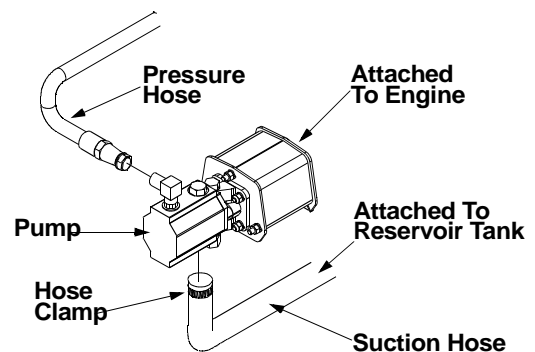

Figure 9
- The suction is attached to the reservoir tank, beneath the engine mounting bracket. Loosen the hose clamp on the free end of the hose. Remove any protective insert from the end of the hose. See Figure 9.
- The pressure hose is attached to the control valve. Route the hose between the beam and the tongue. Secure the pressure hose to the adapter on the top of the pump. See Figure 9.